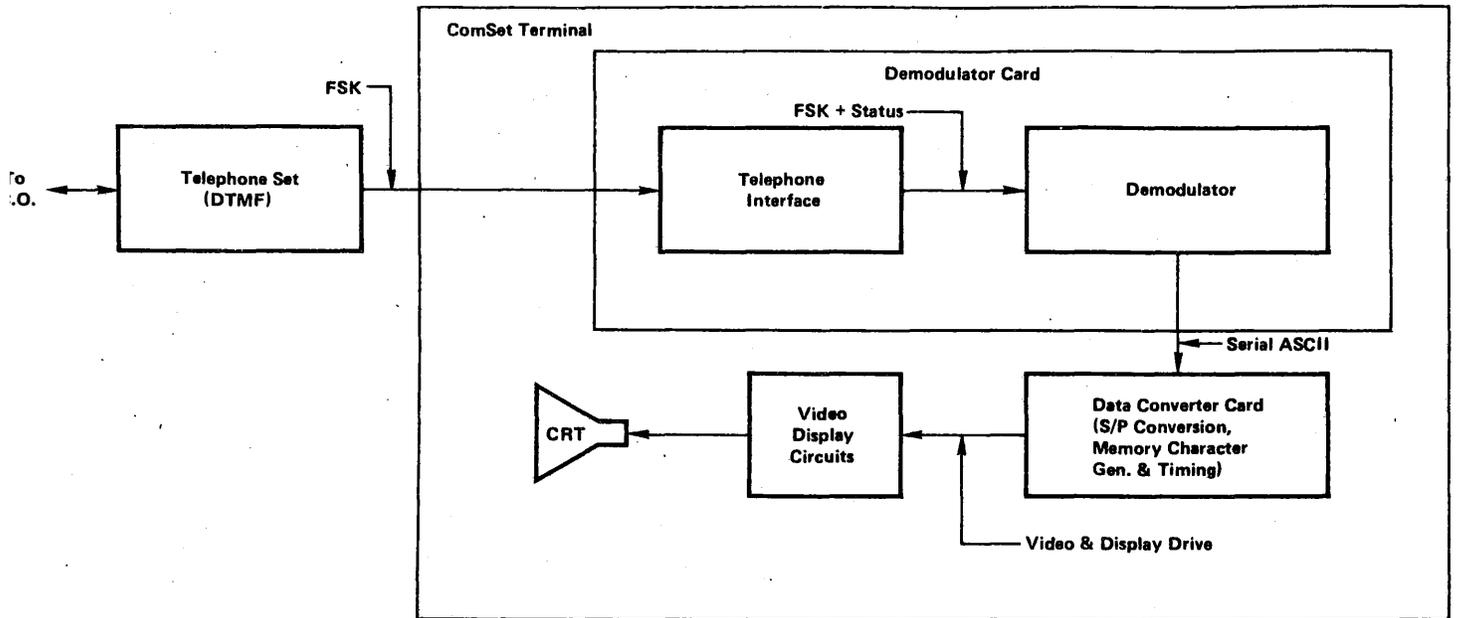

Figure 3-1. Terminal Functional Block Diagram
3.03 Figure 3-1 is a functional block diagram of the ComSet terminal. The terminal is a receive-only device which displays received ASCII-FSK data.